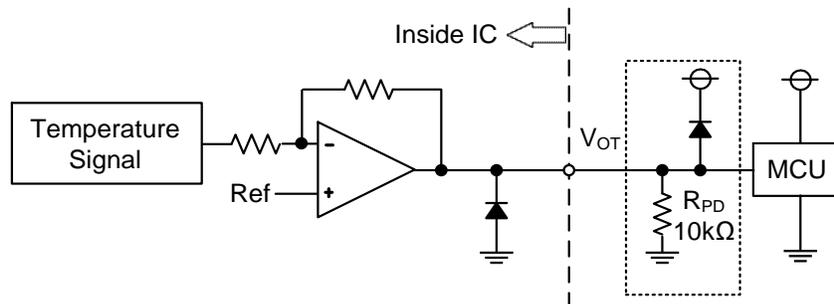

Figure 4. VOT Output Circuit
- The IPM does not shutdown IGBTs and output fault signal automatically when temperature rises excessively. When temperature exceeds the protective level that the user defined, the controller (MCU) should stop the IPM. Temperature of LVIC vs. V_{OT} output characteristics is described in Figure 4.
- (1) If the control GND is connected with the power GND by common broad pattern, it may cause malfunction by power GND fluctuation. It is recommended to connect the control GND and power GND at a single point (N1), near the terminal of the shunt resistor.
- (2) A zener diode D1 (24V/1W) is recommended between each pair of control supply pins to prevent surge destruction.
- (3) Prevention of surge destruction can further be improved by placing the bus capacitor as close to pins P and N1 as possible. Generally a 0.1-0.22μF snubber capacitor C3 between the P-N1 terminals is recommended.
- (4) Selection of the R1*C4 filter components for short-circuit protection is recommended to have tight tolerance, and is temperature-compensated type. The R1*C4 time constant should be set such that SC current is shut down within 2μs; (typically 1.5-2μs). R1 and C4 should be placed as close as possible to the C_{SC} pin. SC interrupting time may vary with layout patterns and components selections, therefore thorough evaluation in the system is necessary.
- (5) Tight tolerance, and temperature-compensated components are also recommended when selecting the R2*C5 filter for V_{OT}. The R2*C5 time constant should be set such that V_{OT} is immune to noise. Recommended values of R2 and C5 are 2kΩ and 10nF.
- (6) To prevent malfunction, traces A, B, and C should be as short as possible.
- (7) It is recommended that all capacitors are mounted as close to the IPM as possible. (C1: electrolytic type with good temperature and frequency characteristics. C2: ceramic type with 0.1-2μF, good temperature, frequency and DC bias characteristics.)
- (8) Input drives are active-high. There is a minimum 3.5kΩ pull-down resistor in the input circuit of IC. To prevent malfunction, the layout to each input should be as short as possible. When using RC coupling circuit, make sure the input signal levels meet the required turn-on and turn-off threshold voltages.
- (9) V_{CF} output is open drain type. It should be pulled up to MCU or control power supply (max= $5\pm 0.5V$), limiting the current (I_{FO}) to no more than 1mA. I_{FO} is estimated roughly by the formula of control power supply voltage divided by pull-up resistor R3. For example, if control supply is 5V, a 10k Ω (over 5k Ω) pull-up resistor R3 is recommended.
- (10) If only a pull-up resistor R3 of 10k Ω connected to V_{CF} pin, the fault output pulse width is fixed at minimum 20 μs . If a capacitor C6 is connected with a pull-up resistor R3, the fault output pulse width can be controlled according to the resistor value and capacitor value. For the design guide, please refer to the Figure 4.
- (11) Direct drive of the IPM from the MCU is possible without having to use opto-coupler or isolation transformer.
- (12) The IPM may malfunction and erroneous operations may occur if high frequency noise is superimposed to the supply line. To avoid such problems, line ripple voltage is recommended to have $dV/dt \leq \pm 1V/\mu s$, and $V_{ripple} \leq 2V_{p-p}$.
- (13) It is not recommended to use the IPM to drive the same load in parallel with another IPM or inverter types.